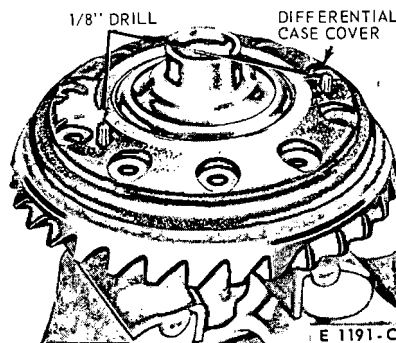
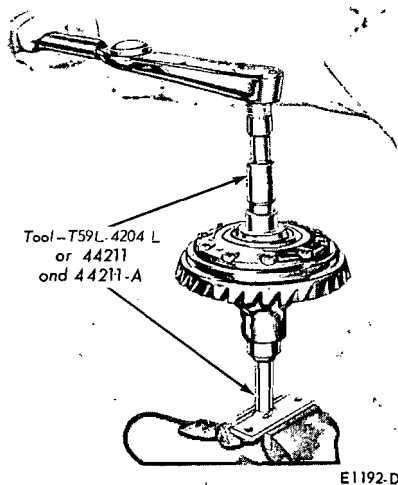

FIG. 27—Differential Cover Installation
FIG. 28—Differential Torque Check
4. Carefully set the differential case cover over the right hand case (Fig. 27). At this point, no force or pressure should be applied to the cover. The cover contains two 3/16 inch holes by which the clutch plates can be properly aligned. Insert the shank ends of two 1/8 inch drill bits into the holes, and work the drill bits back-and-forth until the plates are centered (Fig. 28). When the clutch plates are centered, the weight of the cover will cause it to fall into position. Remove the drill bits.